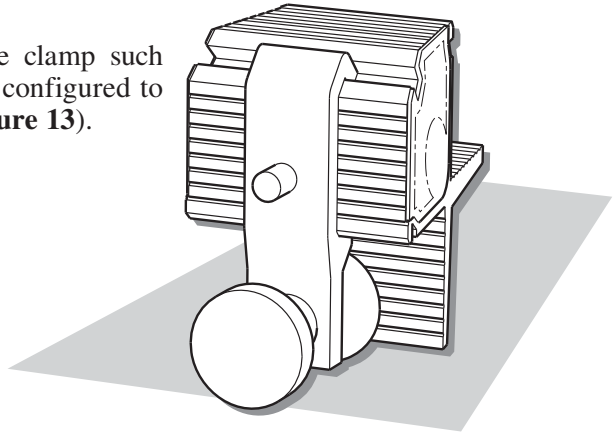

Figure 13: Dovetail saw guide set to cut pins. Note that taper is horizontal.
13. Switch the guide clamp such that the guide is configured to cut pins (see **Figure 13**).